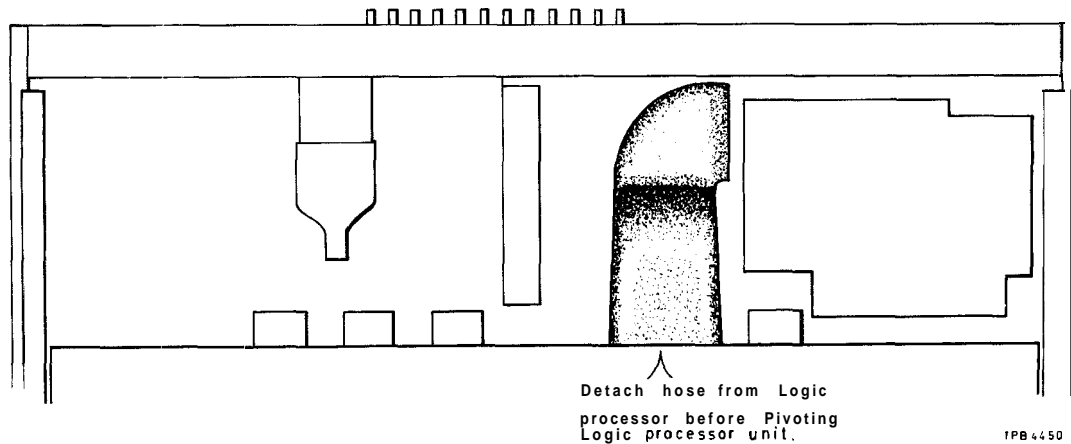

Fig. 2 Removal of air duct
(6) Detach the air duct from the rear of the logic processor unit shown in Fig. 2 below,